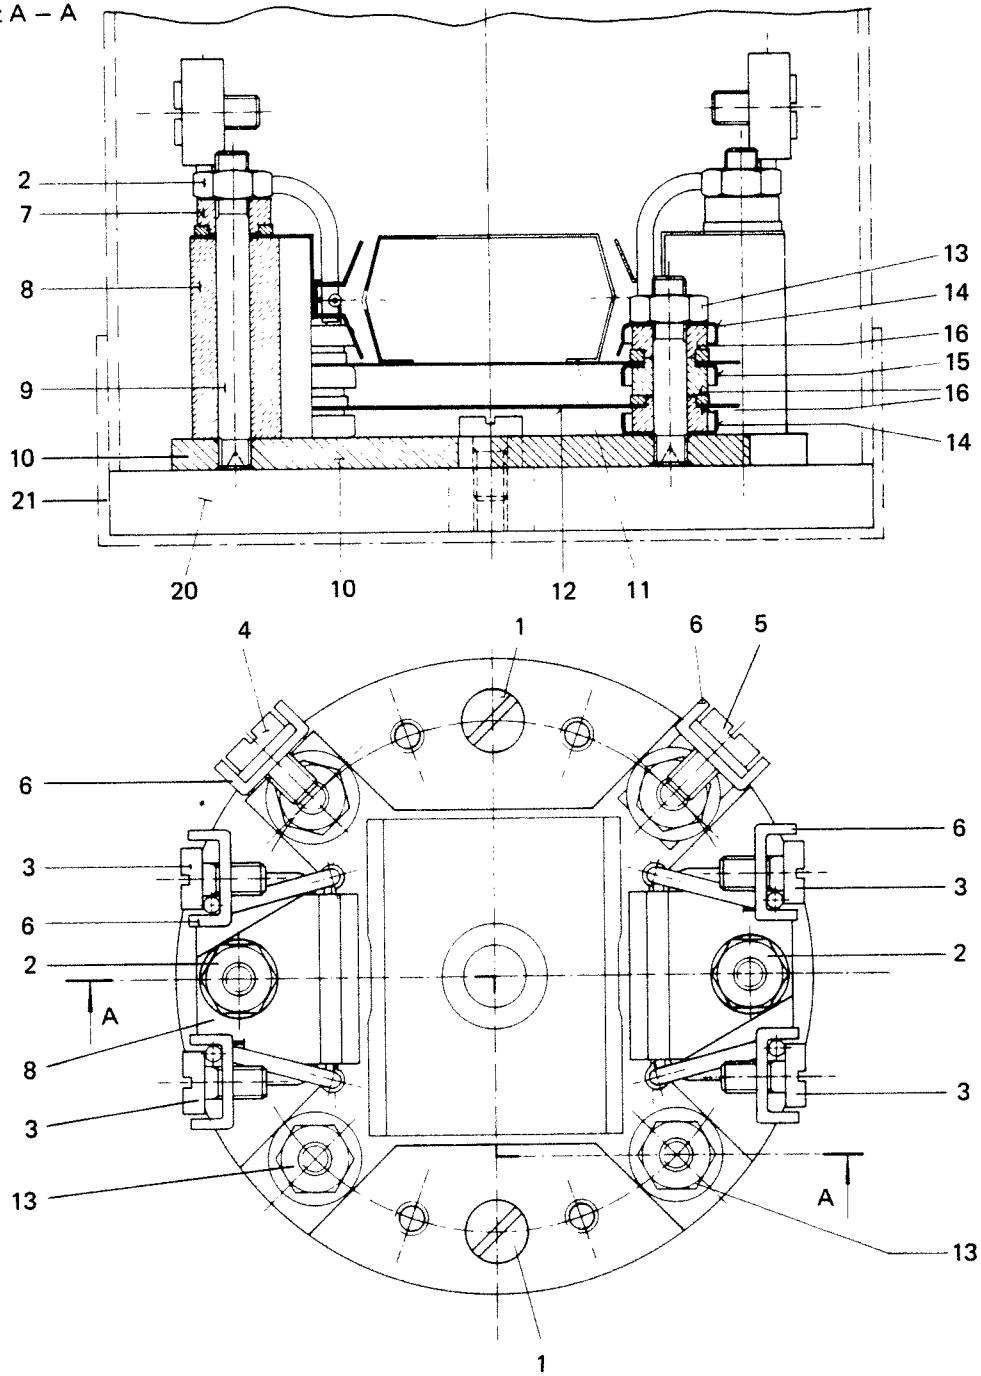

Fig. 7.1.
7.1. Dismantling the Ion Source (Fig. 7.1.)
Figure 7.1. shows the complete assembly with all of the parts in their corresponding position. Please note that the centrally located shield washers (15) have larger holes. In case of substantial contamination of the ion source, the insulating elements should all be replaced and the ion entrance hole of the mass filter cleaned with the rolled-up polishing cloth described above.
2. Remove machine screws (3) and U-washers (6) (Fig. 7.1.).
3. Unscrew nut (2) and remove cathode assembly and insulating bushing.
4. Unscrew nut (2) from new cathode assembly, remove from container, and slip over bolt (9).
5. Make sure that insulating bushing (7) is properly seated, then tighten nut (2). The Wehnelt electrode must be parallel to the formation chamber (see also 5.1.4.).
6. Reconnect wires with U-washers (6) and machine screws (3) according to Fig. 7.1. Great care should be exercised in tightening the screw connections to avoid any damage to the delicate ceramic holding of the cathode filament.